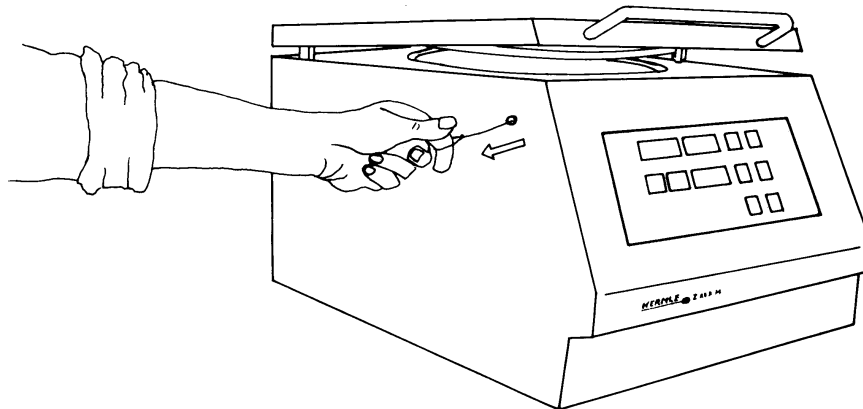

Figure 10
- Remove the plastic plug and pull the red cord. The lid can then be opened (see figure 10).